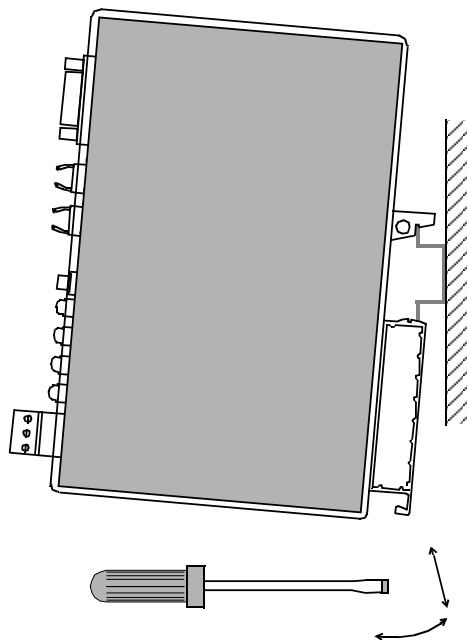

Figure 3-1 Mounting and removing the module.
3. Push the module onto the rail. The module can be released by pulling the locking spring with a screwdriver, see “Figure 3-1” on page 3-2.
7. Push the module onto the rail. The module can be released by pulling the locking spring with a screwdriver, see "Figure 3-1" on page 3-2.